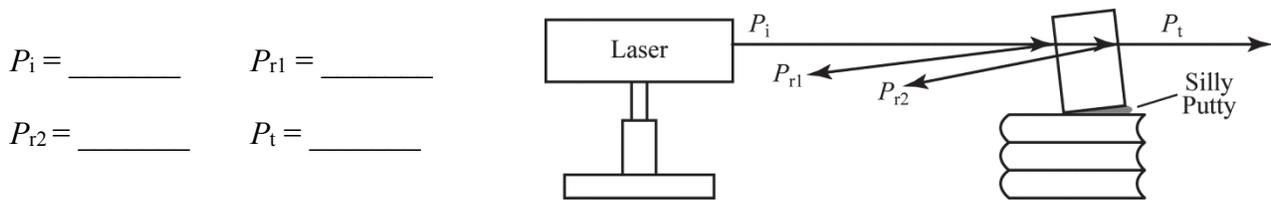
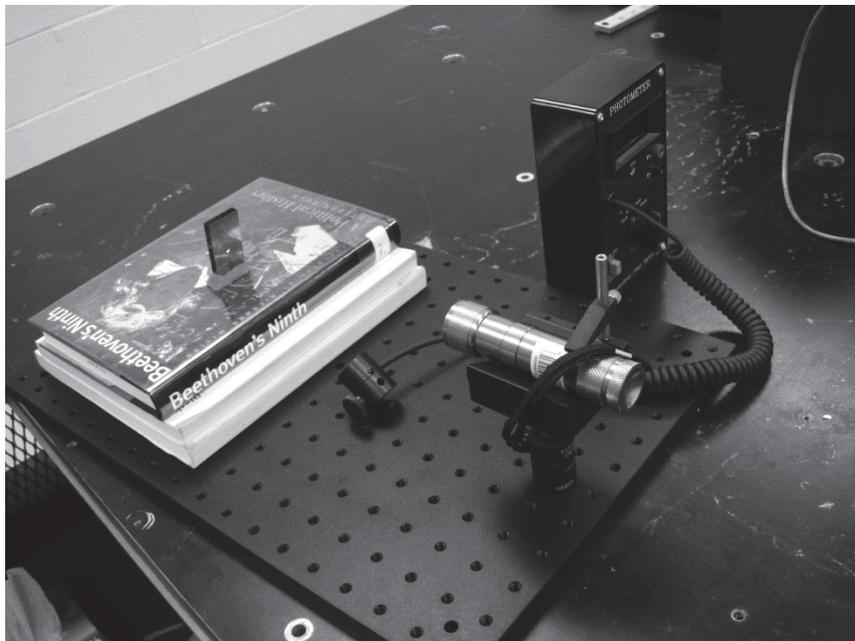
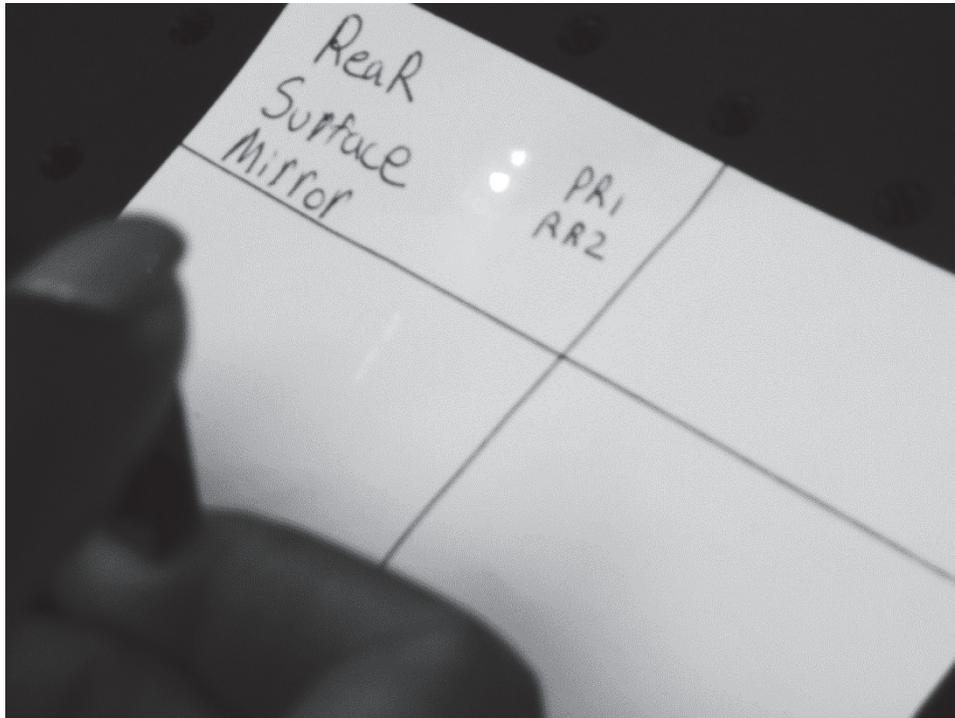

Figure 24 – Rear Surface Mirror Power Measurements Set-up
Figure 25 – Mirror Power Measurements Set-up
Figure 26 – Rear Surface Mirror Power Measurement
- Measure and record each of the following values in Figure 24. Refer to Figure 25 and Figure 26 for experimental set-up.